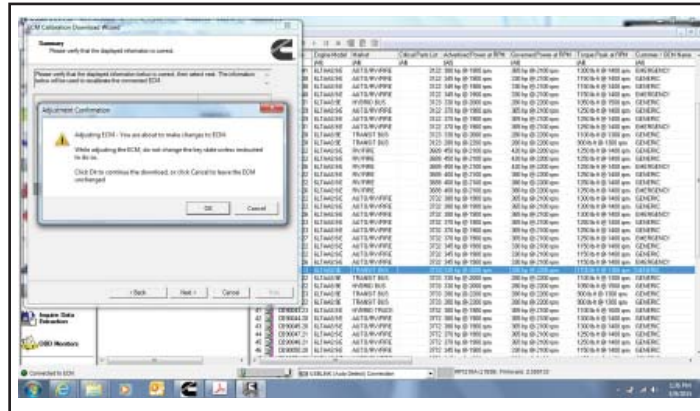

Figure 21 - Clicking OK to Continue Downloading
- 1.21. Click ok to continue download. At this time, key switch should be on. It is important that there is no power interruption while calibrating. See Figure 21.